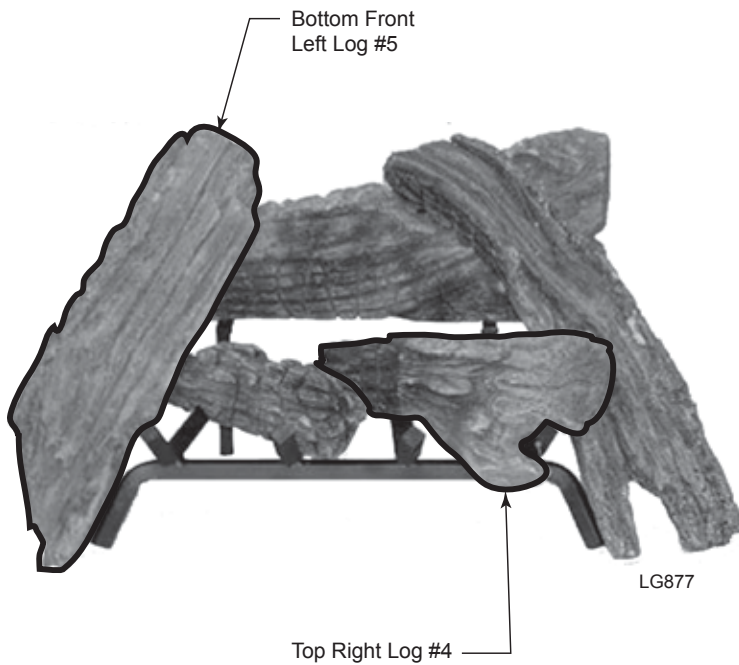

**Figure 60 -
5. Rest Bottom Left Log #5 on back log #1 and to the outside of the first grate prong. *Figure 60*
6. Rest right end of Top Right Log #4 on bottom right log. *Figure 60*